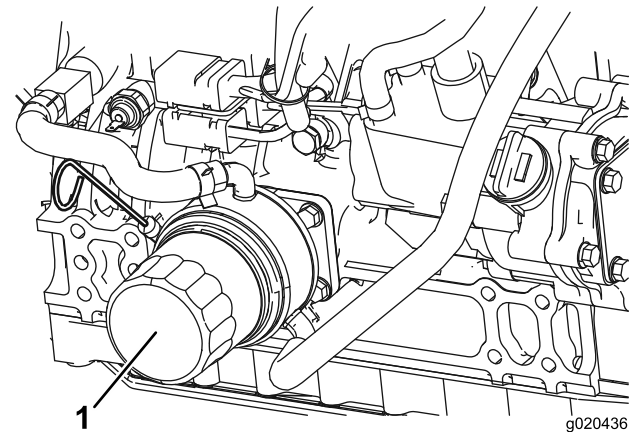

Figure 50
2. Remove the oil filter (Figure 50). Apply a light coat of clean oil to the new filter seal before screwing it on. **Do not overtighten.**